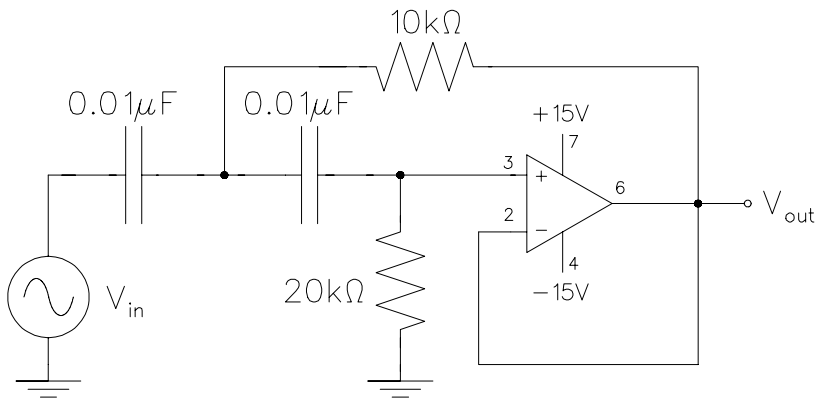

Figure 12.5: Active filter B
- Assemble the circuit in Figure 12.5 and repeat the above steps.
- Name the types of filters in circuits (A) and (B). Suggest advantages of active over passive filters which employ only resistors, capacitors and inductors.